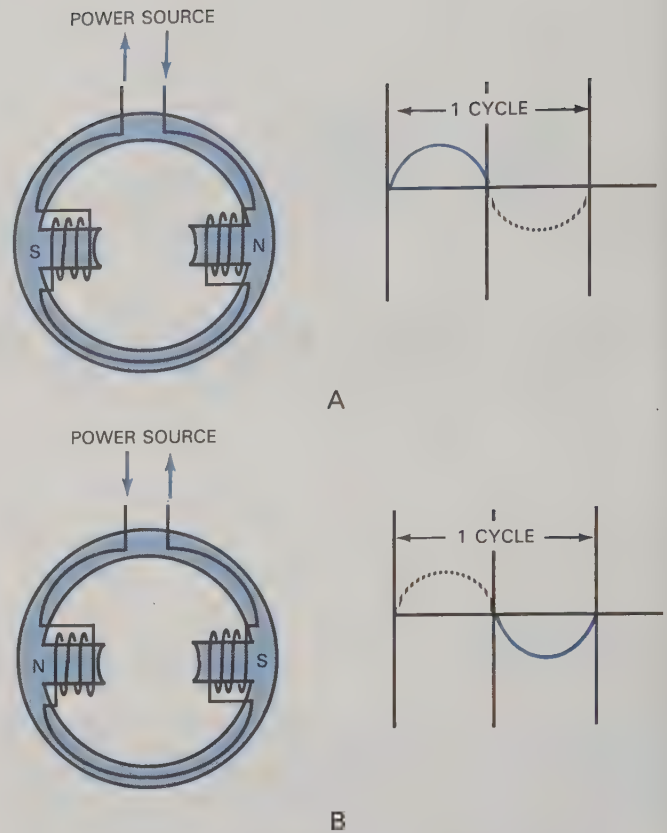

Fig. 21-2. Alternating current automatically reverses the polarity of the stator's magnetic poles during each cycle.
2. The polarity of an electromagnet can be changed by reversing the direction of current flowing through its coil. Ordinary 60-cycle alternating current automatically reverses the polarity of the stator poles 120 times per second. See Fig. 21-2.